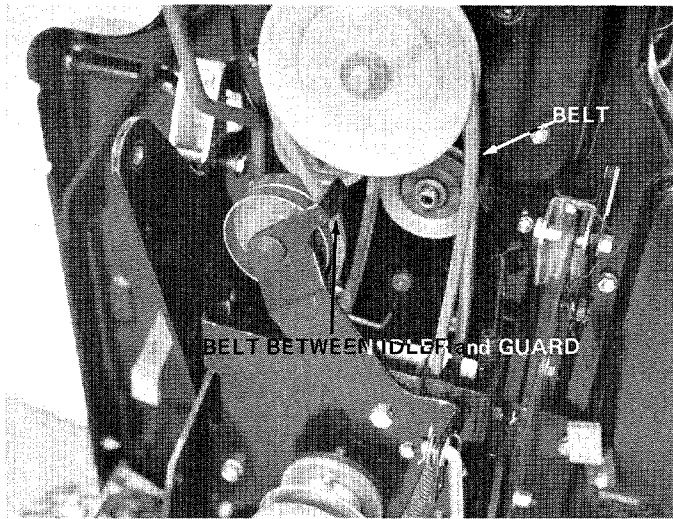

FIGURE 19
19. Slip the idler assembly belt over the engine pulley as shown in figure 19.
Be sure the belt runs between idler pulley and guard as shown in figure 19.